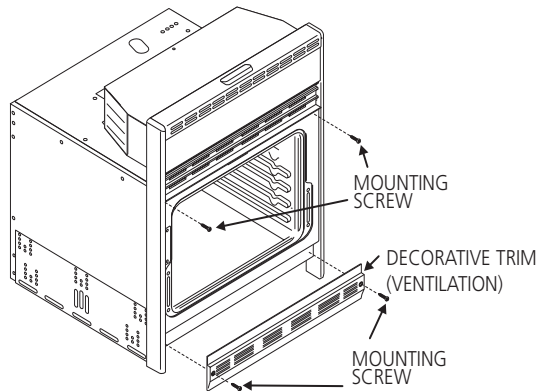

Figure 6
1. Line up the 2 mounting holes on the decorative trim (ventilation) (taped to the oven side panel) with the lower mounting holes on each side of the oven frame, below the oven door (see figure 6).